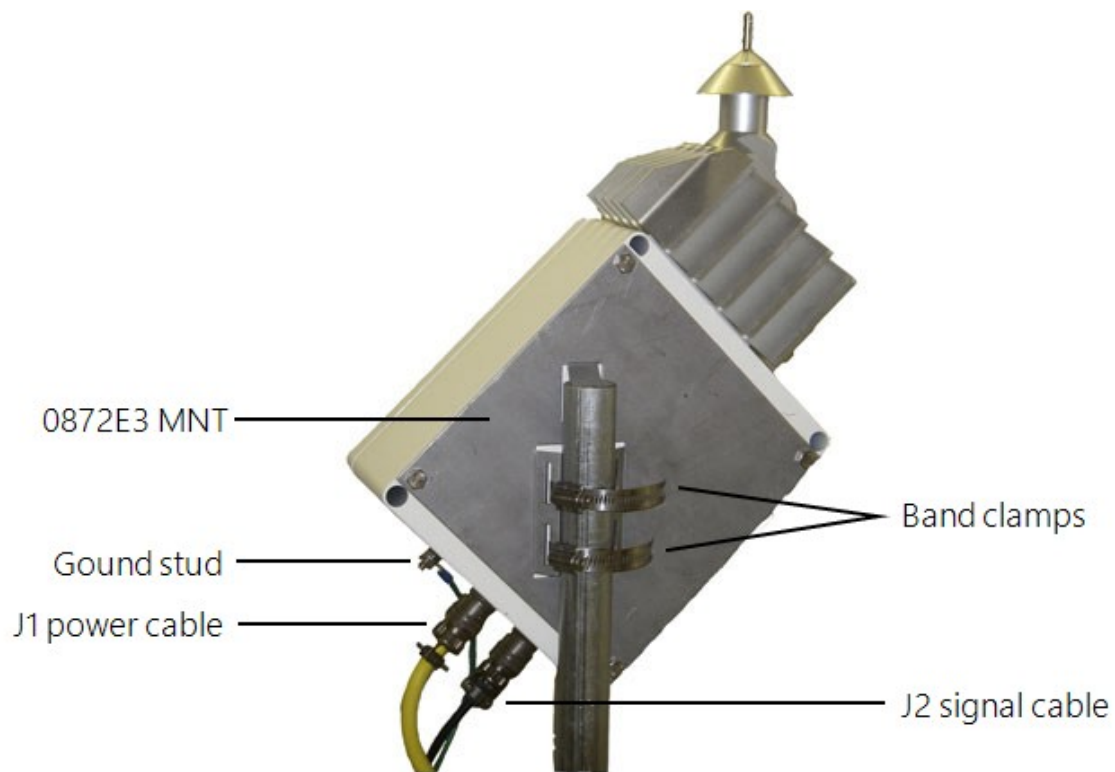

Figure 6-1. Mounting
The 0872F1 should be mounted to a sturdy pole located away from buildings or other obstacles that could shadow the sensing element from freezing rain. The 0872F1 should be installed so the sensing probe is a minimum 35 inches above the ground. The 0872E3 MNT mounting bracket (shown in Figure 6-1 [p. 8]) is ideal for mounting the 0872F1 to the pole.
1. Position the 0872F1 on the mounting pole with the sensing probe pointing upward. Tighten band clamps as shown in Figure 6-1 (p. 8).